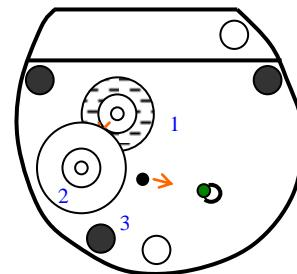

Figure 19: gear 2 on spindle 2
A 1.3 Slide the double gear (2) **flat side down** onto spindle 2. (Fig. 19.)